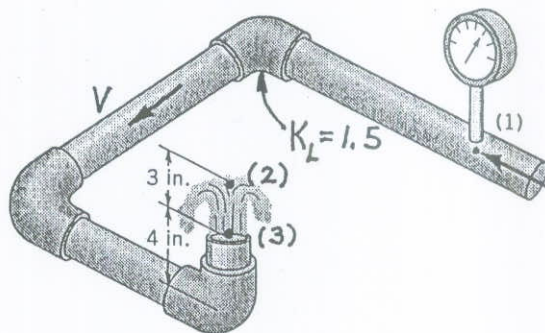

FIGURE P8.81
8.81 As shown in Video V8.14 and Fig. P8.81 water "bubbles up" 3 in. above the exit of the vertical pipe attached to three horizontal pipe segments. The total length of the 0.75-in.-diameter galvanized iron pipe between point (1) and the exit is 21 in. Determine the pressure needed at point (1) to produce this flow.